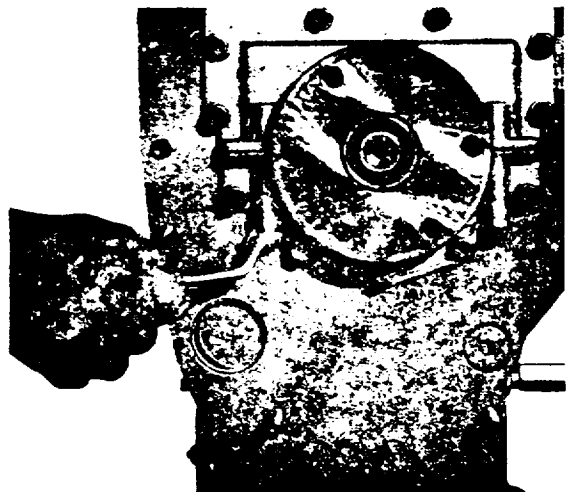

Fig. H.9. Oil Seal Housing securing Setscrews.
8. Assemble the half housings around the crankshaft rear journal and fasten together by the two setscrews (see Fig. H.9).